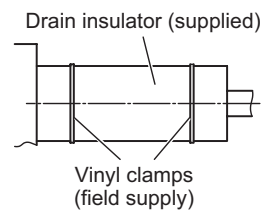

Fig. 2-83
- After connecting the drain pipe securely, wrap the supplied packing and drain pipe insulator around the pipe, then secure it with the vinyl clamps. (Fig. 2-83)